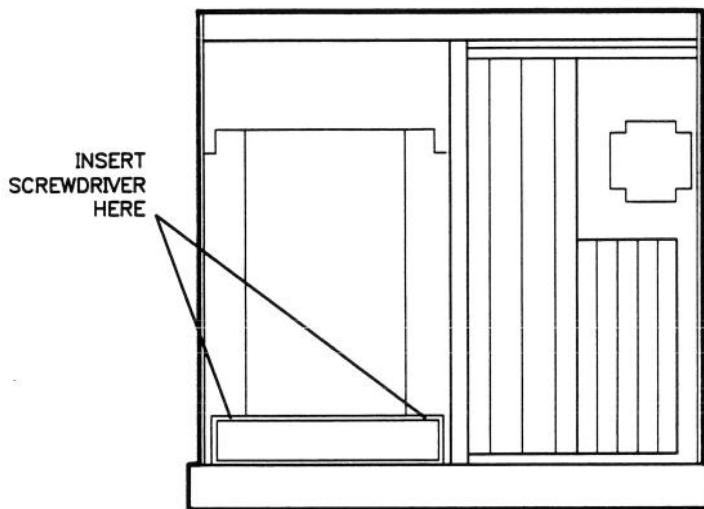

Figure 8-45a. Display Shield and CRT (Top View)
8. The display needs to be moved forward so that the back bezel is up against the glass filter. Insert a flat-blade screwdriver in the space between the display shield and the raised portion of the CRT frame as shown in Figure 8-45a. Turn the screwdriver to force the CRT forward.